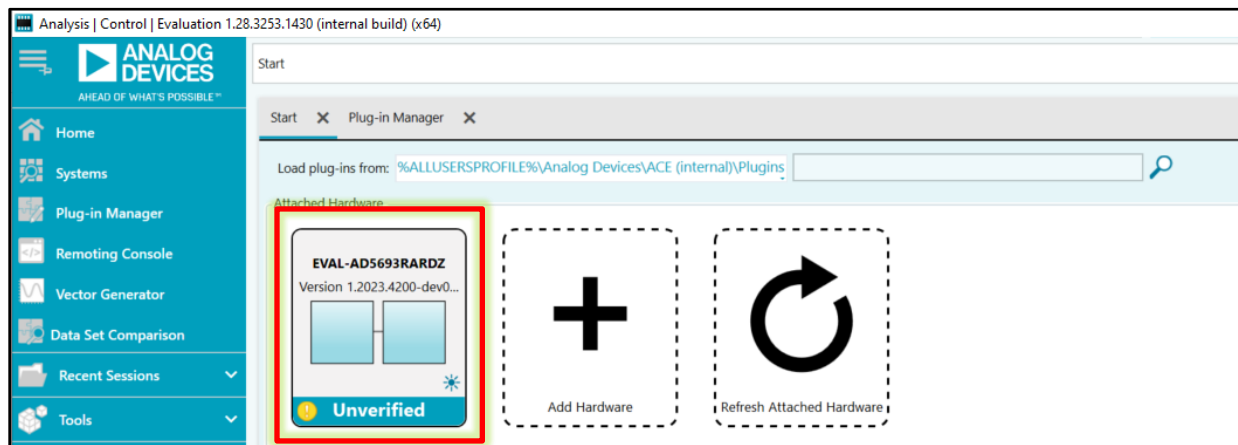

Figure 16
2. Open ACE, EVAL-AD5693RARDZ will show up as an Attached Hardware, shown in Figure 16. Double-click on the EVAL-AD5693RARDZ image.